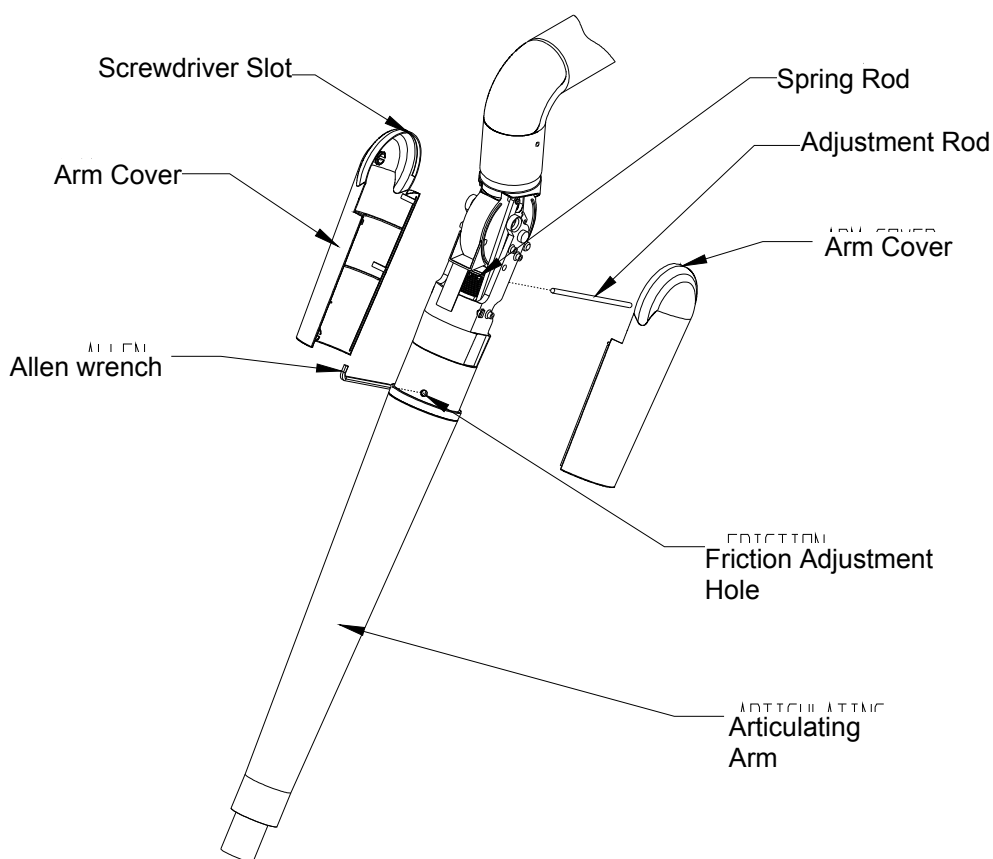

Figure 21: Arm Adjustment
- Friction adjustment: Should the articulating arm need a friction adjustment insert the 3/32" Allen wrench (supplied in hardware kit) into the top hole located in the pivot casting and turn clockwise to tighten or counter clockwise to loosen. (See Figure 21).